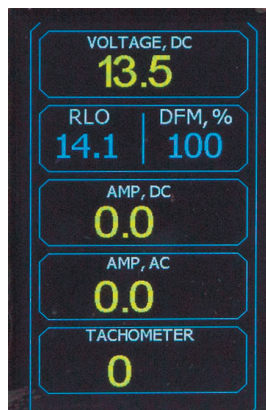

Fig. 9. Display data output when testing an alternator with RLO terminal
- **RLO:** indicator of set generation voltage when testing alternators with RLO terminal (Fig. 9).